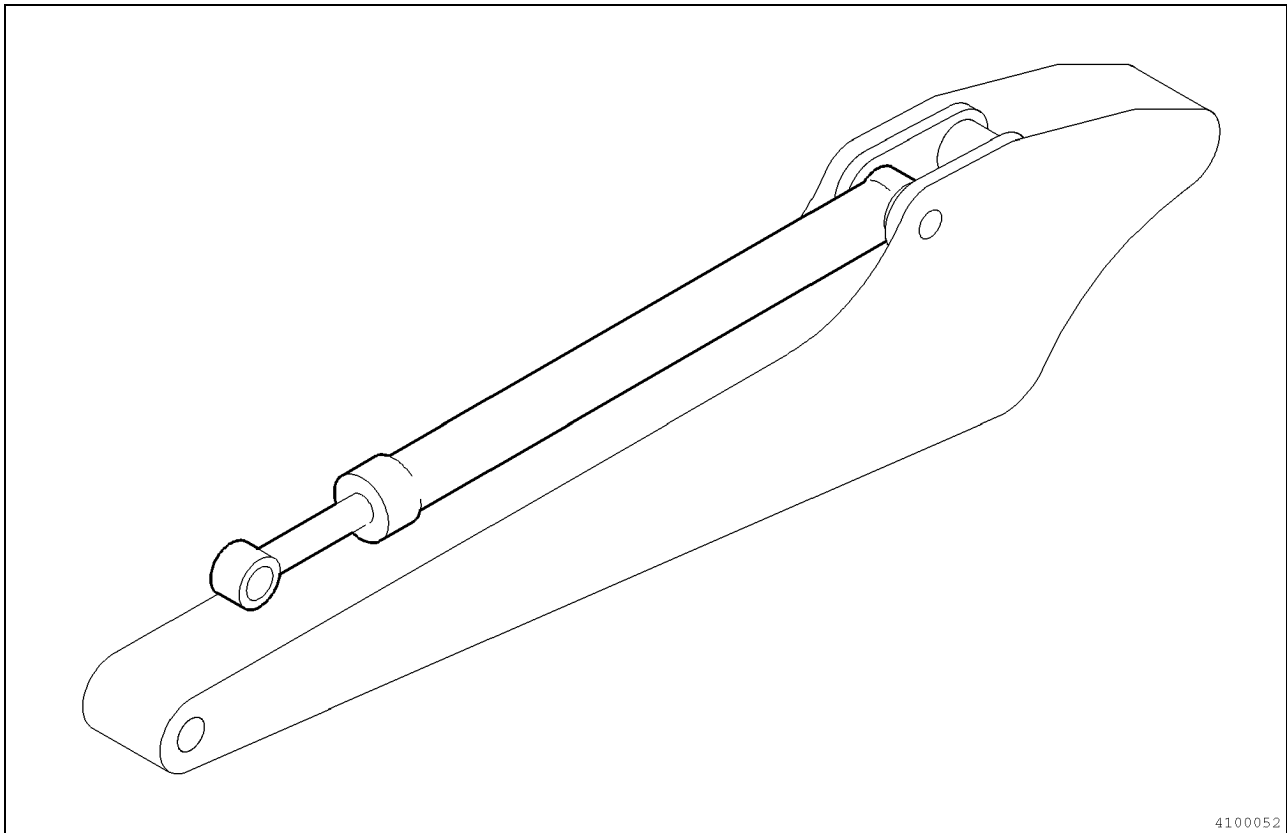

Fig. 1
- Insert bushing (5) with a press into rod guide (7) using special tool (W005).
- Insert lip seal (3), backing ring (2), damper ring (4) and retaining ring (6) into rod guide (7).
- Insert scraper ring (1) with special tool (W006) and a hammer into rod guide (7).
- Then place O-ring (10) and backing ring (9) in the corresponding grooves of rod guide (7).
- O-ring (18), the two backing rings (16), sealing ring (17) and the four guide rings (two No. 19 and two No. 20) are slid over piston (15) using special tool (W007).
- Rod guide (7) is mounted on piston rod (11) with special tool (W008).
- Place damper seal (14) into the groove provided in piston rod (11) and slide damper ring (13) over seal. Piston (15) can now be mounted on piston rod (11).
Make sure the notch in damper seal (14) points in the direction of the piston. The oil grooves on the outside of damper ring (13) must point in the proper direction (see illustration Fig. 1).
- Slide spacer ring (21) over piston rod (11) and tighten nut (24).
- Make a toe-in on retaining screw (22) at two places with hammer and chisel to block it with nut (24) for protection against loss.
- For the second limit-stop dampener, retaining ring (25) is mounted on piston rod (11) and damper seal (26) then placed in the groove provided on piston rod (11) before damper ring (27) is placed on piston rod (11) over damper seal (26).
- Limit stop (28) placed on piston rod (11) completes the second limit-stop dampener.
Make sure the notch in damper seal (14) points in the direction of the piston. The oil grooves on the outside of damper ring (13) must point in the proper direction (see illustration Fig. 1)
- Place cylinder barrel (12) with a crane on the workbench in horizontal position and fix.
- Introduce piston rod (11) pre-assembled with rod guide (7) and piston (15) into cylinder barrel (12).